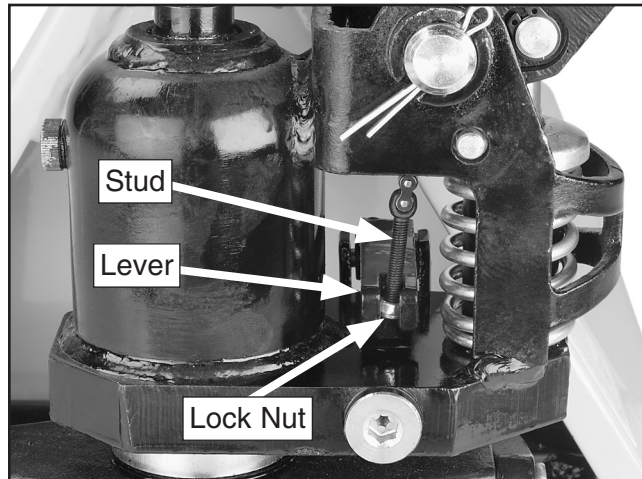

Figure 5. Stud and lock nut installed on lever.
6. Raise the lever, then insert the stud and lock nut into the groove on the lever, as shown in **Figure 5**.